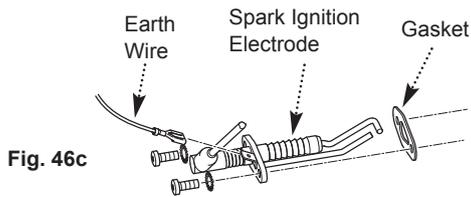

Fig. 46c
11. Remove the ignition electrode (Fig 46c) and check the condition. Replace if necessary.